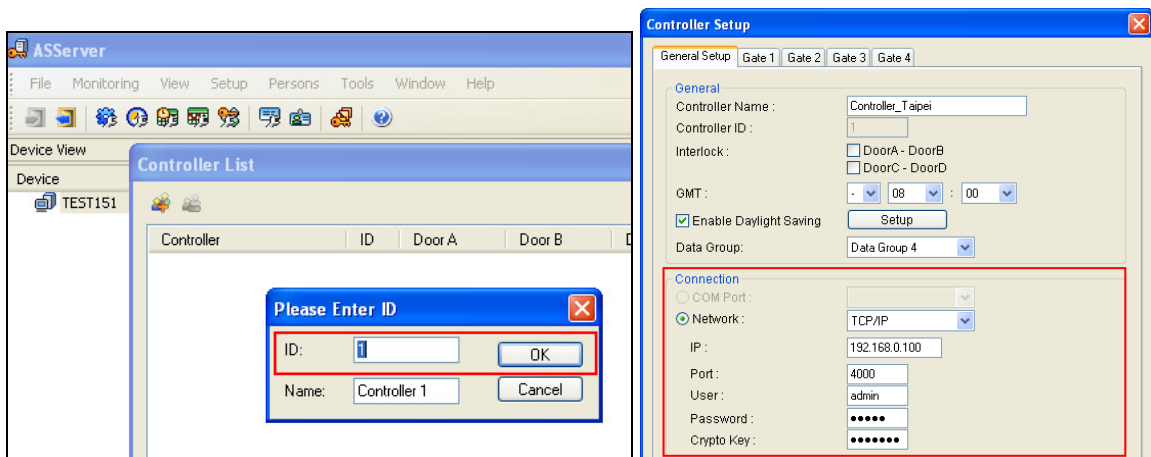

Figure 7-3
- On the GV-ASManager, enter the following settings. See Figure 7-3.